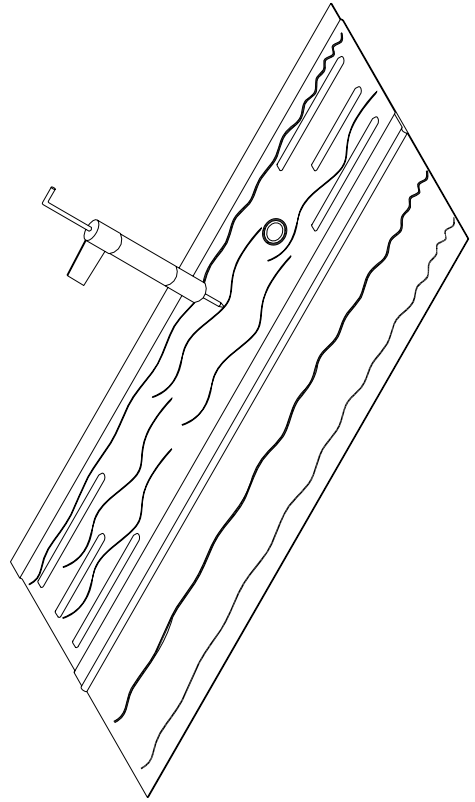

Fig 8
7. Apply a wide bead of silicone down the area where the second panel will rest. Run a bead of silicone along the panel (make sure silicone is applied around the cut out holes) (Fig 8).